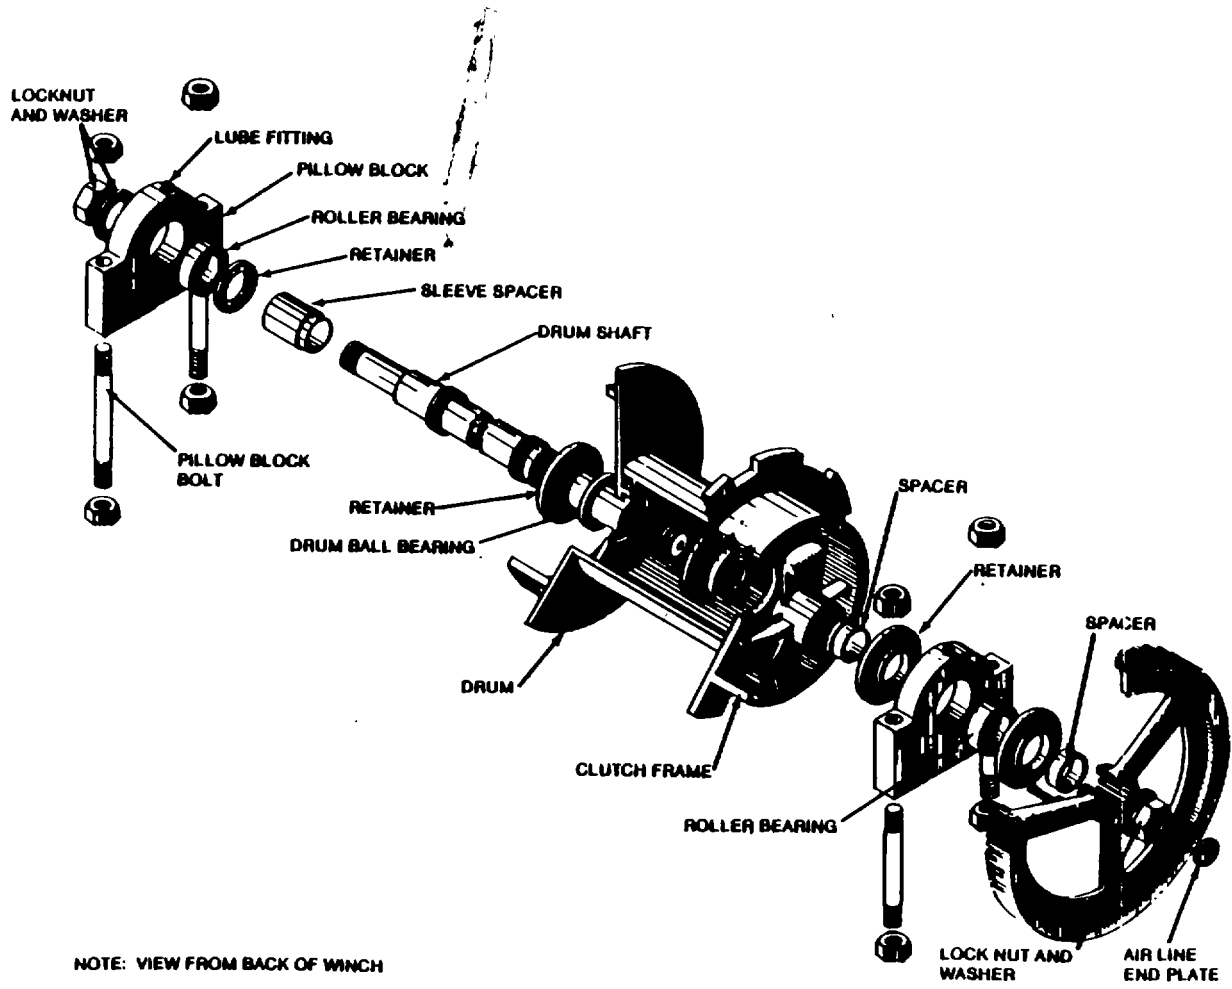

Figure 5-43. Winch Drum Disassembly and Reassembly.
- (a) Refer to Figure 5-43 and remove bolts attaching airline end plate and air coupling to shaft.
- (3) Disassemble other end of drum as follows: